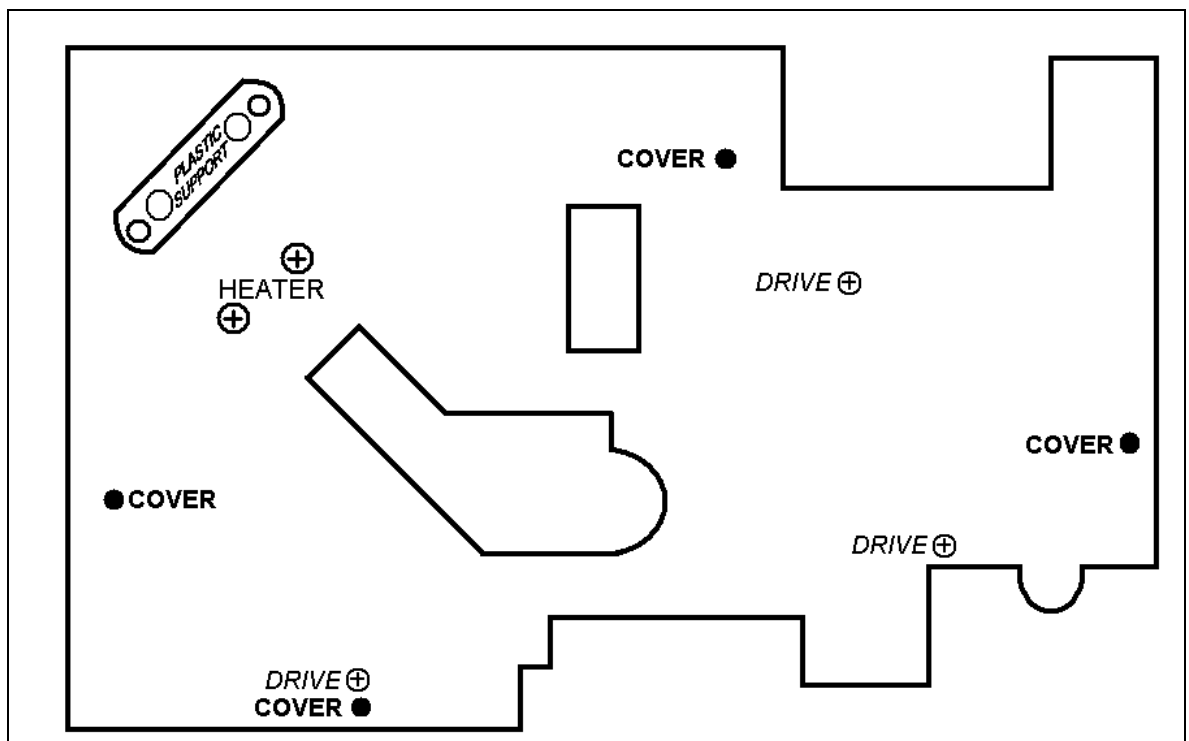

Figure 5-36: Front Plate Assembly with Retaining Screw Locations
17. Remove the two coffee/hot-water heater screws (on the back of the front plate). See Figure 5-36. Separate the heater from its support.
18. Remove the two screws securing the plastic hose support. Remove the plastic support from inside the appliance. See Figure 5-36.
22. Position the grinder as necessary to access the drive cover and drive unit retaining screws. Refer to Figure 5-36 for the location of the screws.
24. Remove all remaining screws from the front plate assembly. Lift upward on the front plate assembly to access the screws near the bottom of the plate. Use Figure 5-36 to locate all screws.